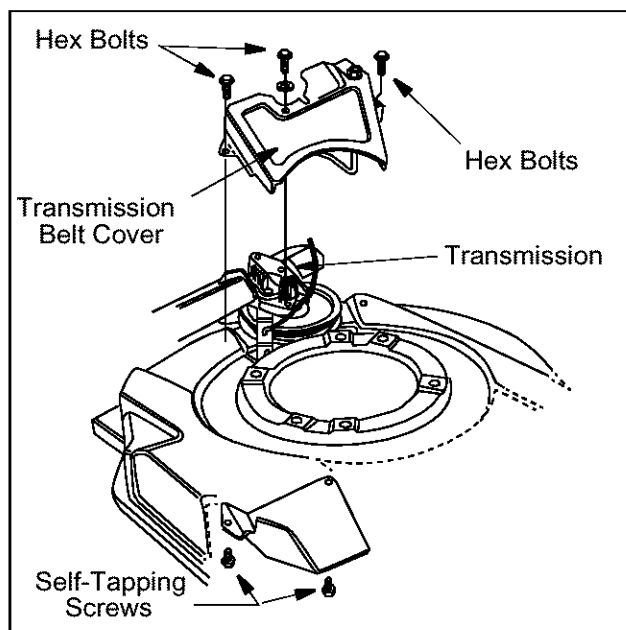

Figure 15
- Remove the transmission belt cover by removing the three bolts. See Figure 15.
- Using a 3/8" wrench, remove the two self-tapping screws which hold the inside belt cover, and remove the cover. See Figure 15.